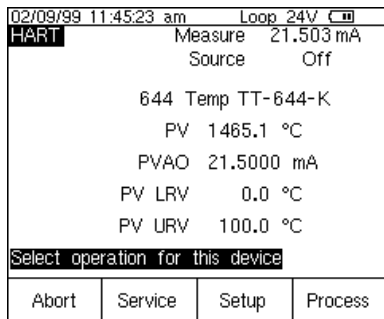

Figure 19
1. Power on the Fluke 744 Calibrator. Press the **ENTER** key and the **Loop Power** softkey (if loop power is not already supplied). Press **ENTER** until any device warnings are cleared and the basic HART information is displayed (Figure 19).